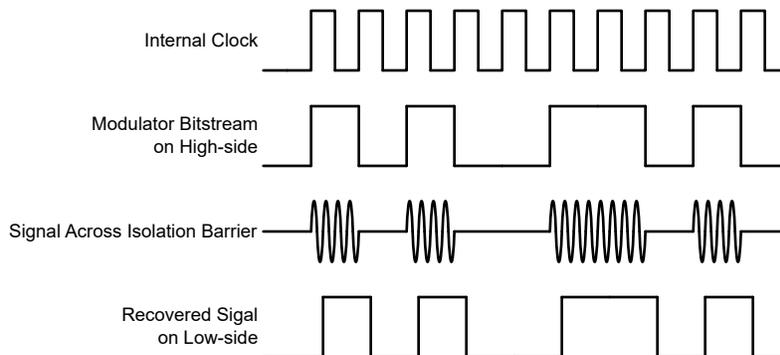

图 7-1. OOK-Based Modulation Scheme
The AMC1350-Q1 uses an on-off keying (OOK) modulation scheme, as shown in 图 7-1, to transmit the modulator output bitstream across the SiO₂-based isolation barrier. The transmit driver (TX) shown in the Functional Block Diagram transmits an internally-generated, high-frequency carrier across the isolation barrier to represent a digital *one* and does not send a signal to represent a digital *zero*. The nominal frequency of the carrier used inside the AMC1350-Q1 is 480 MHz.